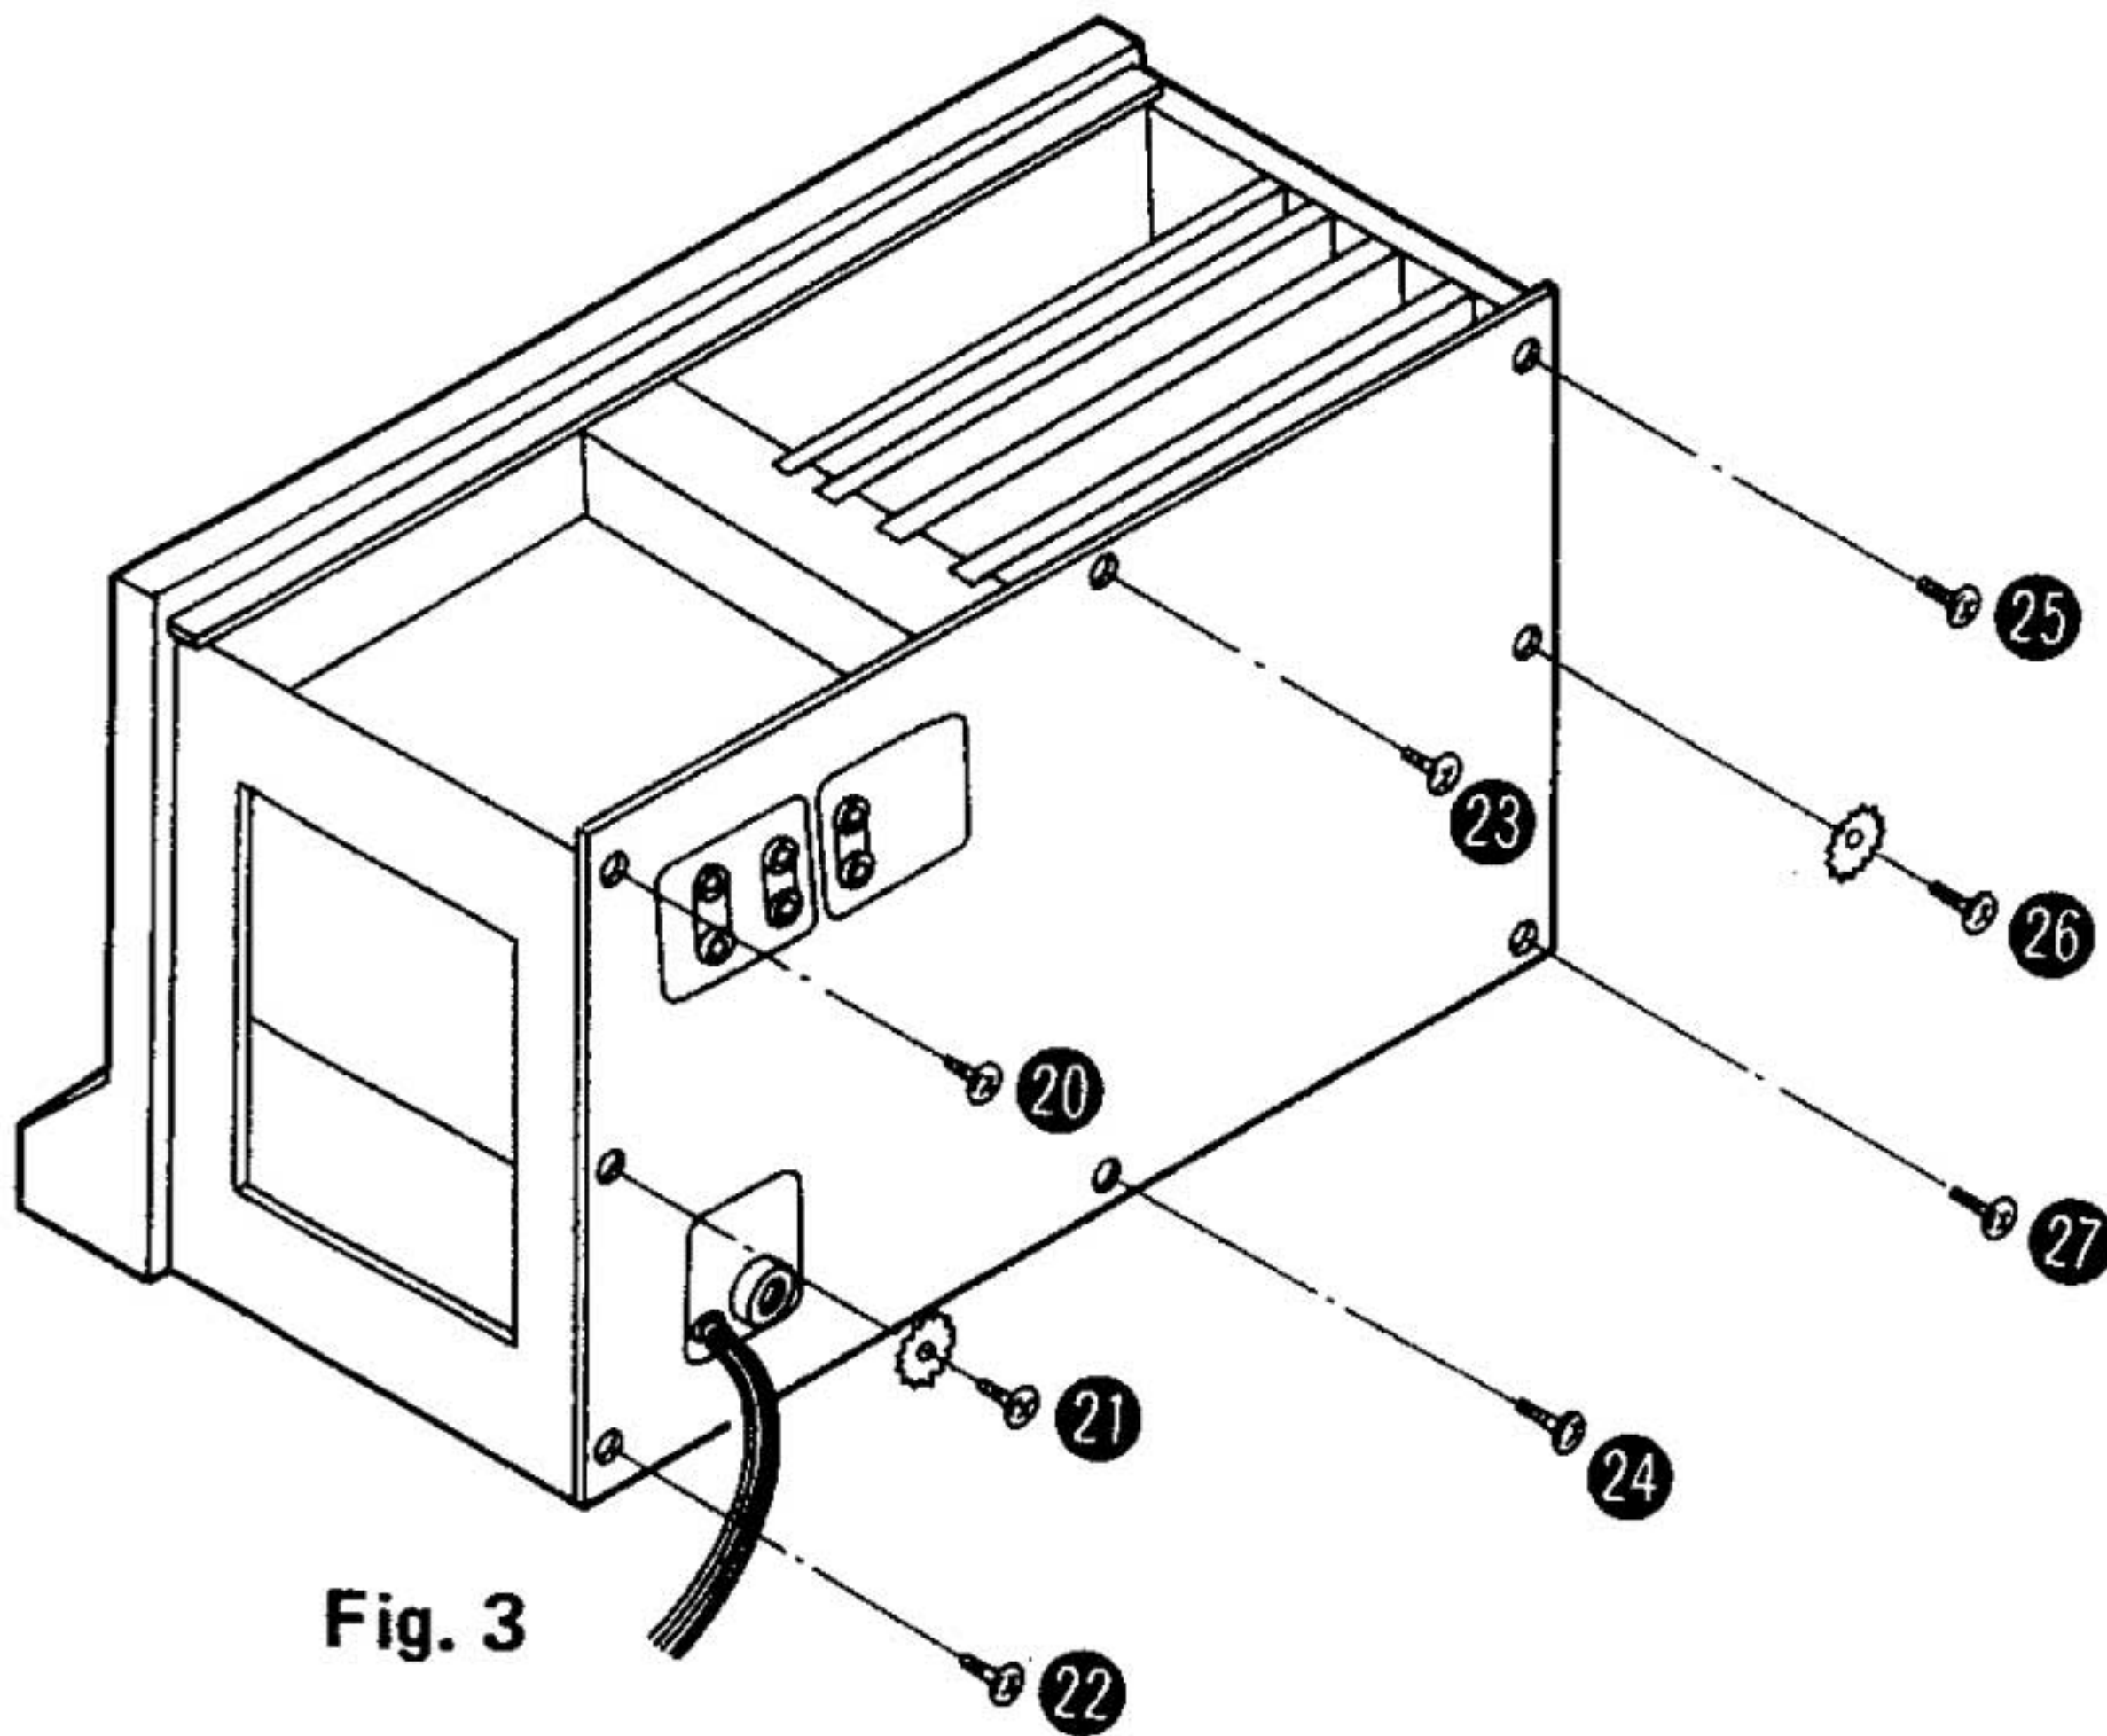

Fig. 3
1. Remove the 8 setscrews (Fig. 3 : ⑳ ~ ㉓) of the rear panel.